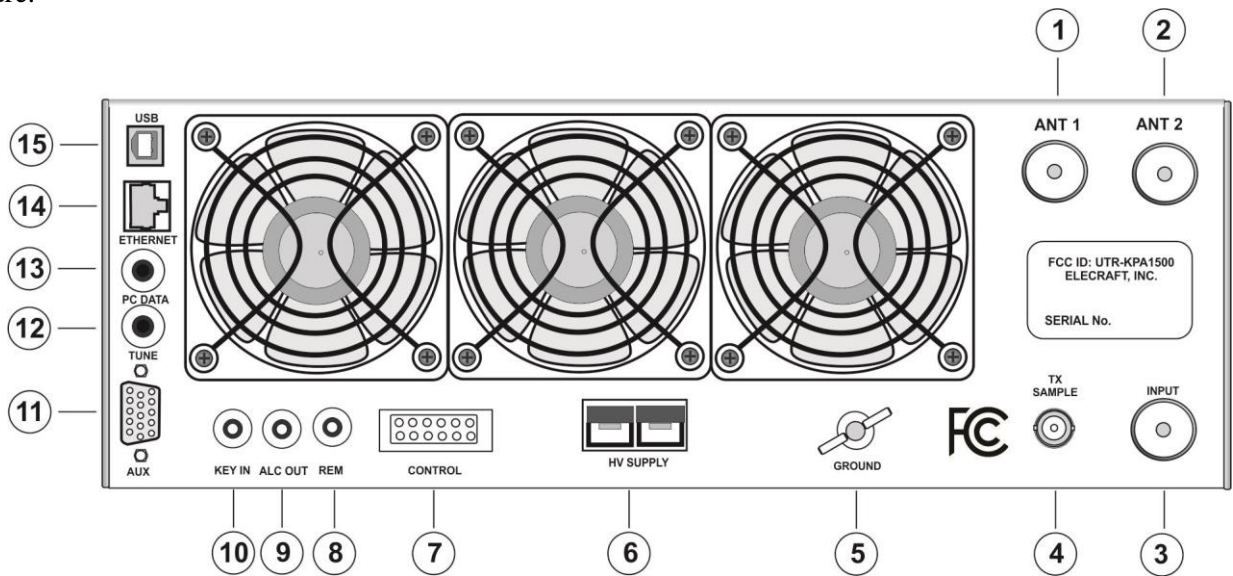
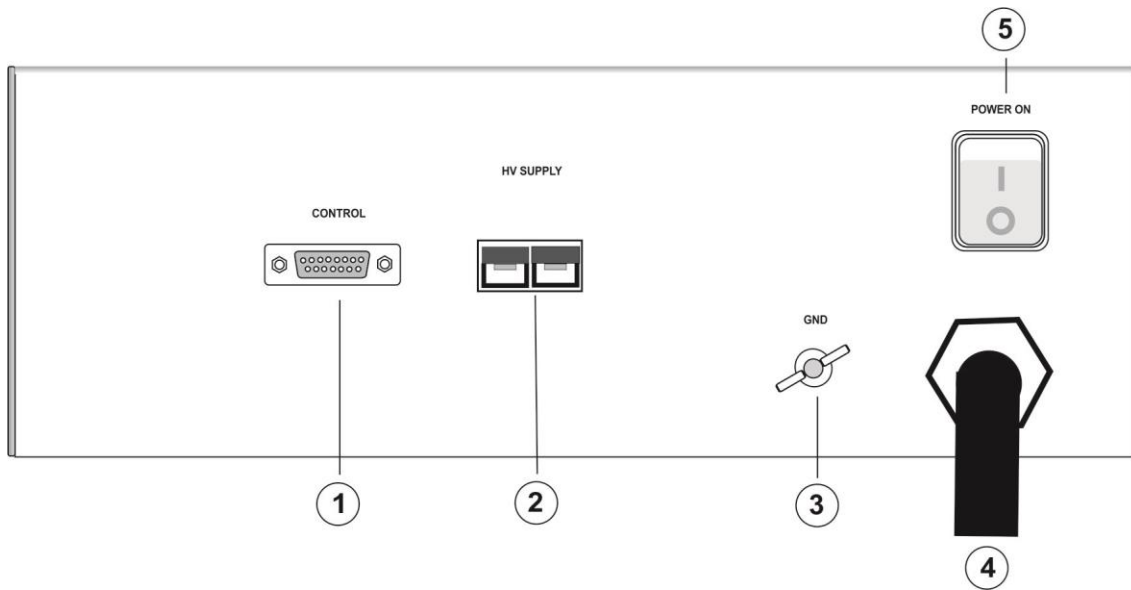

Figure 1. KPA1500 RF Deck Rear Panel
Figure 2. Power Supply Rear Panel.
The KPA1500 RF deck rear panel is shown in Figure 1. The connectors and controls are described following the figure.
The KPA1500 Power Supply Deck is shown in Figure 2. The connectors and controls are described below the figure.
Be sure the POWER ON switch (⑤) . Figure 2) is off before connecting any cables to the Power Supply or RF deck.
Connect the Power Supply to the RF deck with the supplied 66-inch (167 cm) cable that has an Anderson PowerPole® connector and a 15-pin connector at each end. Plug the PowerPole connector into the HV Supply connector (⑥) on the RF Deck rear panel (see Figure 1) and the corresponding connector on the Power Supply (②, Figure 2). Observe the polarity; match the colors on the plug with the connectors. ***Note that the 75A PowerPole connectors click twice when inserted. There is no electrical connection until the second “click”.***
Connect the 15-pin connector to the Power Supply and the Control connector (⑦, Figure 1) on the RF Deck rear panel.
1. Connect your station ground to the GND wing-nut **(5)** (see Figure 1 on page 6). A good station ground is important for safety and to minimize local radio frequency interference (RFI).